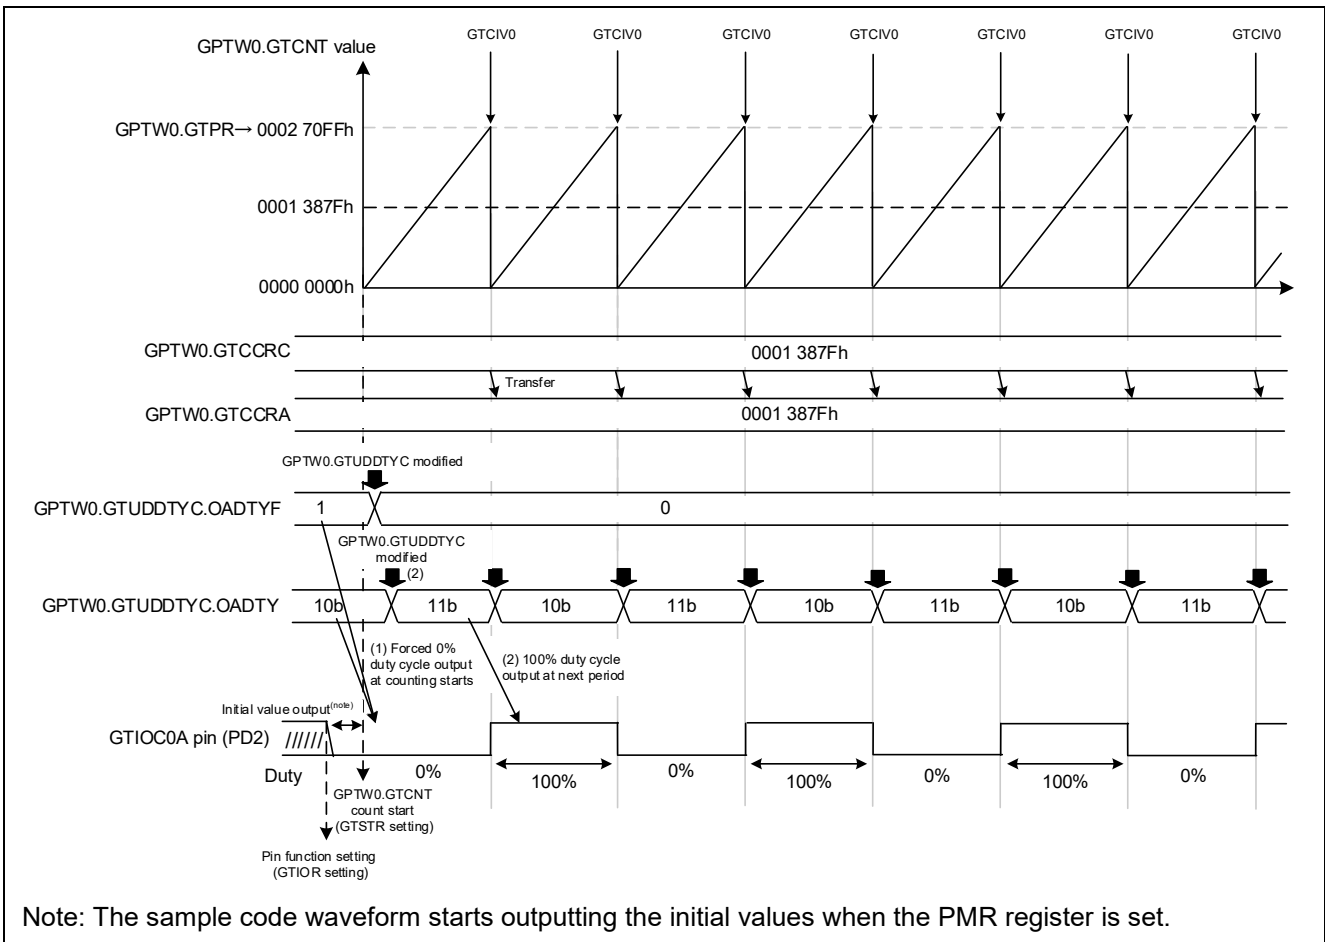

Figure 4.97 Sample Code Operations
- Refer to Figure 4.97 for details on duty change timing
The sample code operations are shown in Figure 4.97. The duty cycle is alternated between 0% and 100% with each period by modifying the value of the GTUDDTYC register at the GTCNT counter overflow interrupt (GTCIV0).